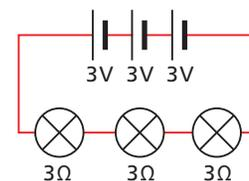

FIGURE 2.6.15b
1. What is the voltage and the resistance of the circuit in Figure 2.6.15b?
2. Explain whether the light bulbs in Figure 2.6.15b are dimmer or brighter than in: